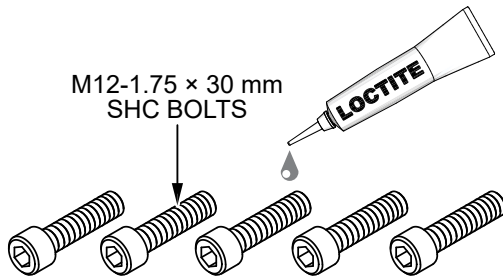

Figure 75. Apply Loctite 242 to New Bolts
- Apply Loctite Blue 242 to the threads on five new M12-1.75 x 30 mm SHC bolts. See Figure 75.